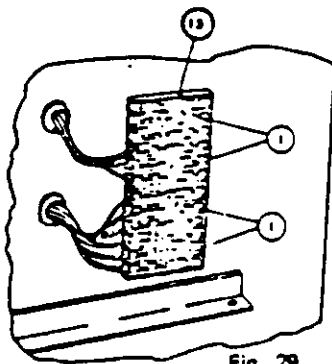

Fig. 29
F. Secondary Isolating Contact Block (Fig. 29).
Removal of contact block is accomplished by removing wiring and mounting screws illustrated in Fig. 29.